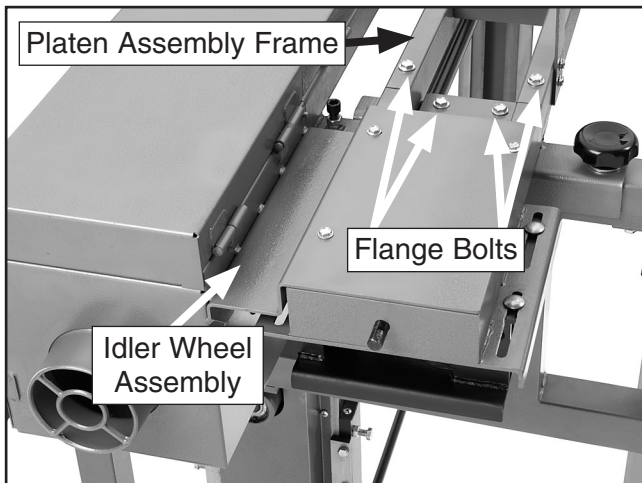

Figure 20. Idler wheel assembly.
10. Connect the idler wheel assembly to the platen assembly frame with (4) $\frac{5}{16}$ -18 x $\frac{1}{2}$ flange bolts, as shown in **Figure 20**.